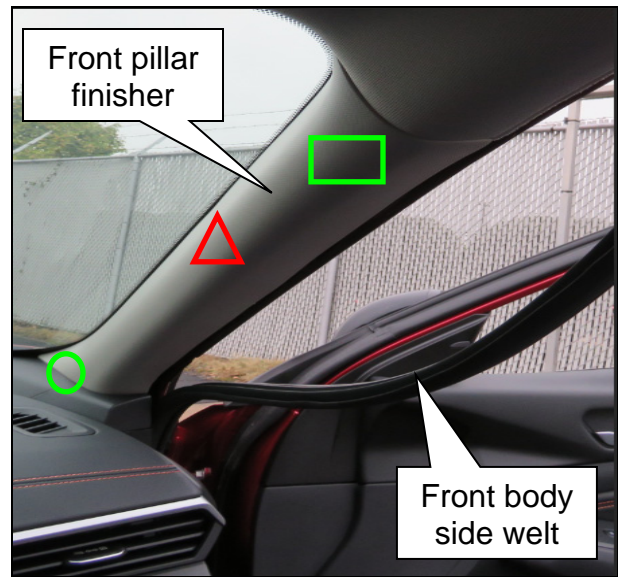

Figure 4
- Using a suitable tool, release only the metal clip near the top of both front pillar finishers (indicated with a green box in Figure 4).
- DO NOT release the tether clip near the center of the front pillar finishers (indicated with a red triangle in Figure 4).
- Pull the front pillar finishers upward to release the pawls located at the base of each finisher (indicated with a green circle in Figure 4).
- Guide the lower portion of the front pillar finishers into the pawls (Figure 4).